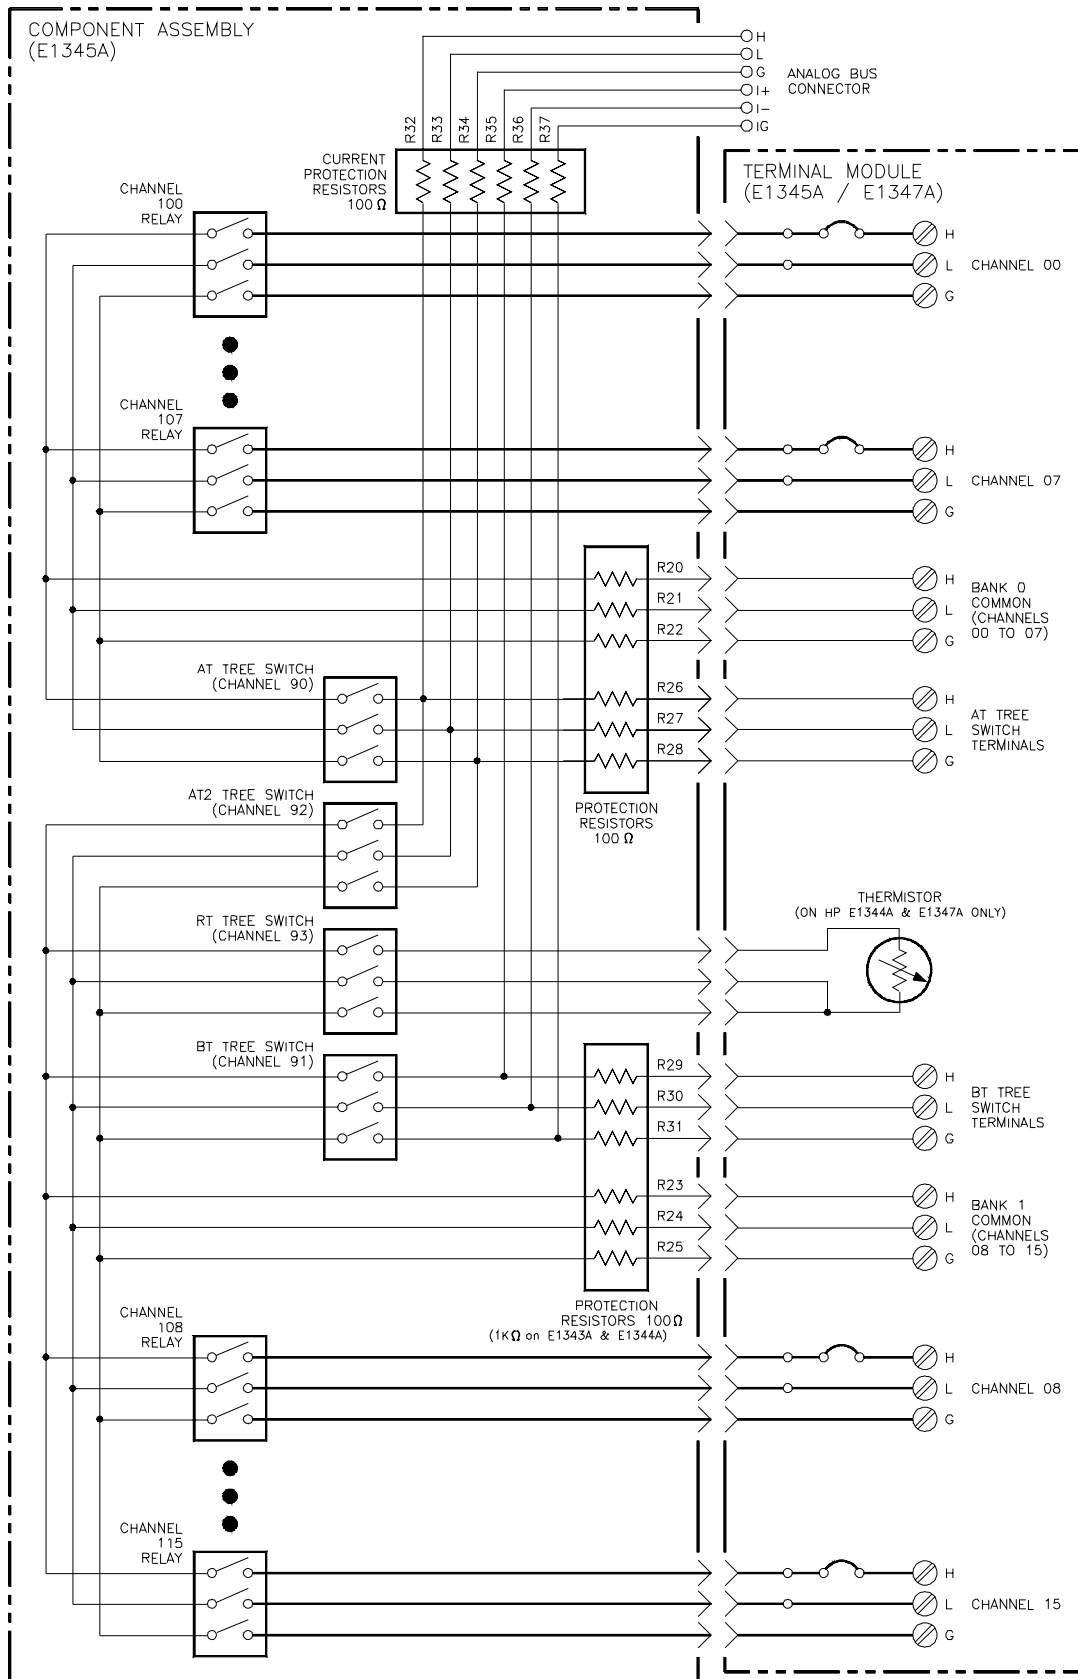

Figure 4-1. E1343A, E1344A, E1345A, E1347A Multiplexer Block Diagram
The E1343A 16-Channel High Voltage Relay Multiplexer and the E1344A 16-Channel High Voltage Relay Multiplexer (with thermocouple compensation) modules consist of an E1343A component assembly (part number E1343-66201) and a terminal module. Each multiplexer provides switching (multiplexing) of up to 16 channels (channels 00 to 15). Each channel has HIGH (H), LOW (L), and GUARD (G) connections. See Figure 4-1 for a block diagram of these modules.
The E1345A 16-Channel Relay Multiplexer and the E1347A 16-Channel Thermocouple Relay Multiplexer consist of an E1345A component assembly (E1345-66201) and a terminal module. Each multiplexer provides switching (multiplexing) of up to 16 channels (channels 00 to 15). Each channel has HIGH (H), LOW (L), and GUARD (G) connections. See Figure 4-1 for a block diagram of these modules.